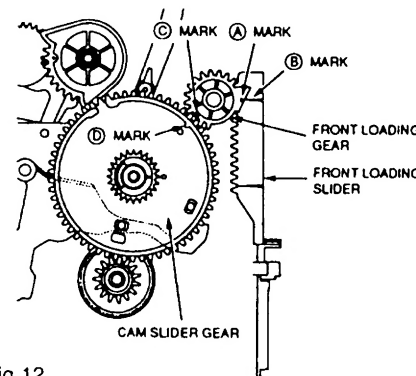

Fig 12.
- 3: Attach the FRONT LOADING GEAR so that the (A) mark on the FRONT LOADING GEAR aligns with the (B) mark on the FRONT LOADING SLIDER and that the (C) mark on the FRONT LOADING GEAR aligns with the (D) mark on the CAM SLIDER GEAR as shown in Fig 12.